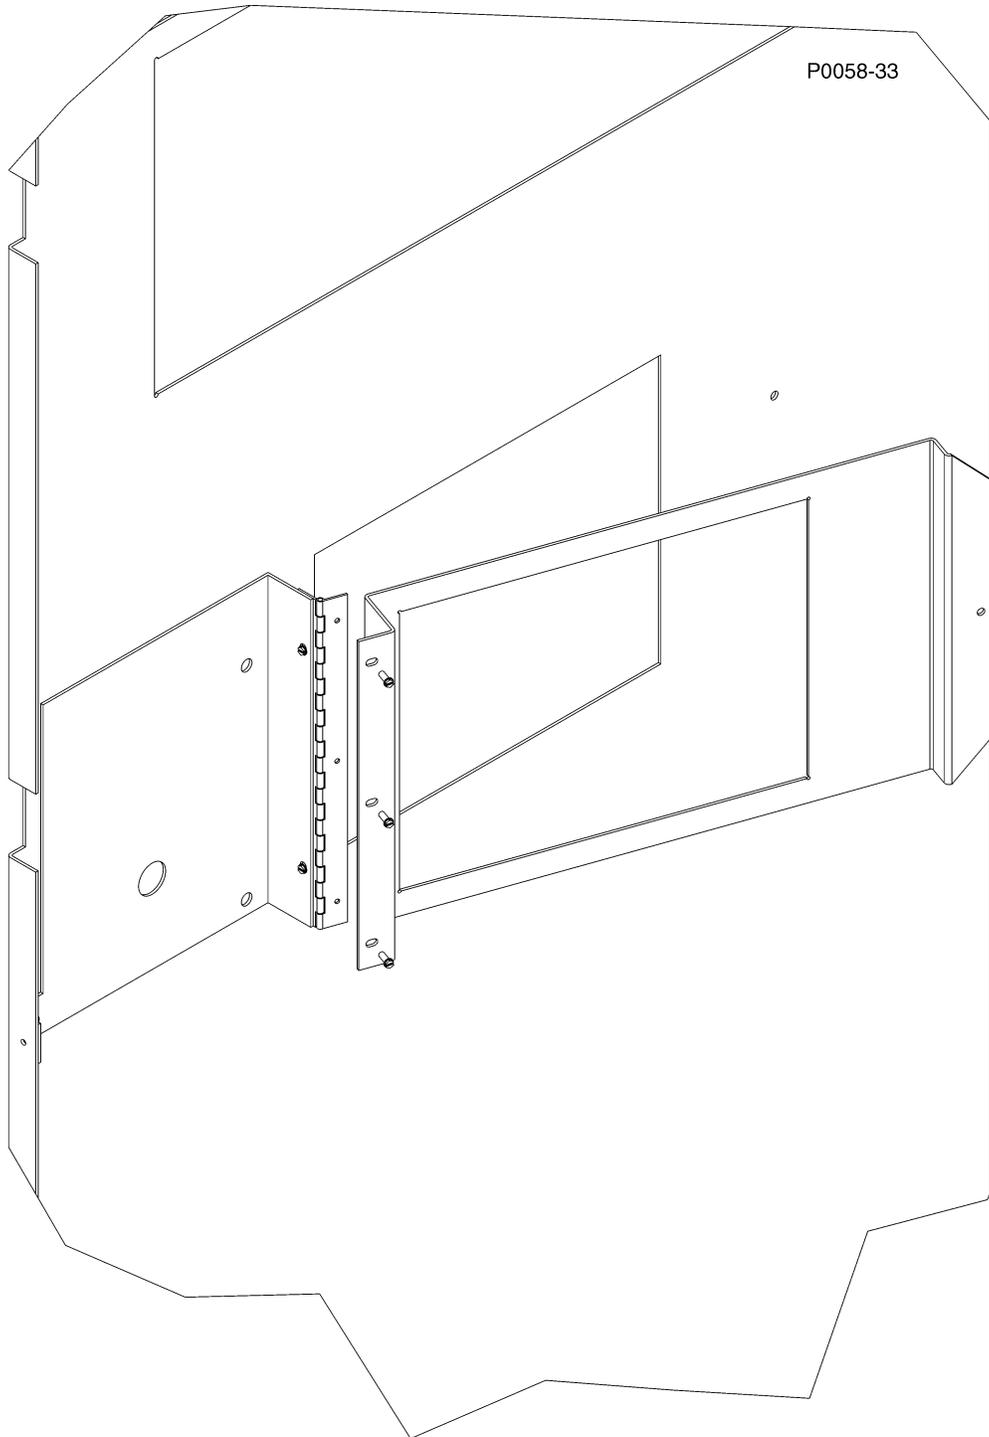

Figure 73. Mounting Bracket and Hinge Assembly Detail
6. Attach the mounting bracket, supplied with the IDP-1200, to the hinge assembly. (Use the screws removed in step 4.) Figure 73 shows the assembly detail.